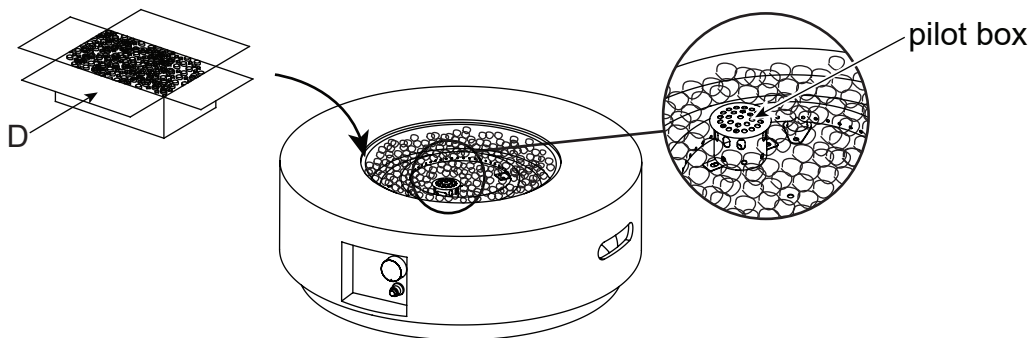

Figure 3
3. Open the box of lava rocks, put the lava rocks (D) into the fire bowl of the fire table (A) (See Figure 3). A gas fire pit requires 8.8 lbs lava rocks.